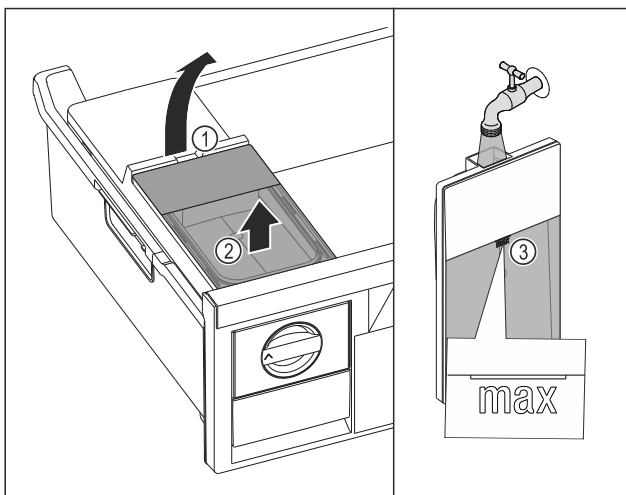

Fig. 180
- ▶ Lift the water tank at the recess Fig. 180 (1).
- ▶ Remove the water tank by lifting it upwards. Fig. 180 (2)
- ▶ Fill the water tank with drinking water up to the mark Fig. 180 (3).